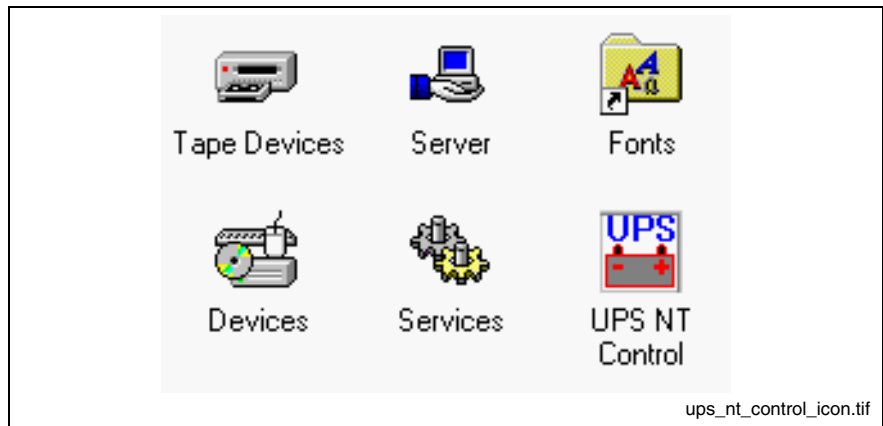

Fig. 9-4: Symbol "UPS NT Control" in the Windows Control Panel
**Configuration** Select the UPSNT program **UPS NT Control** in the system control (see Fig. 9-4).